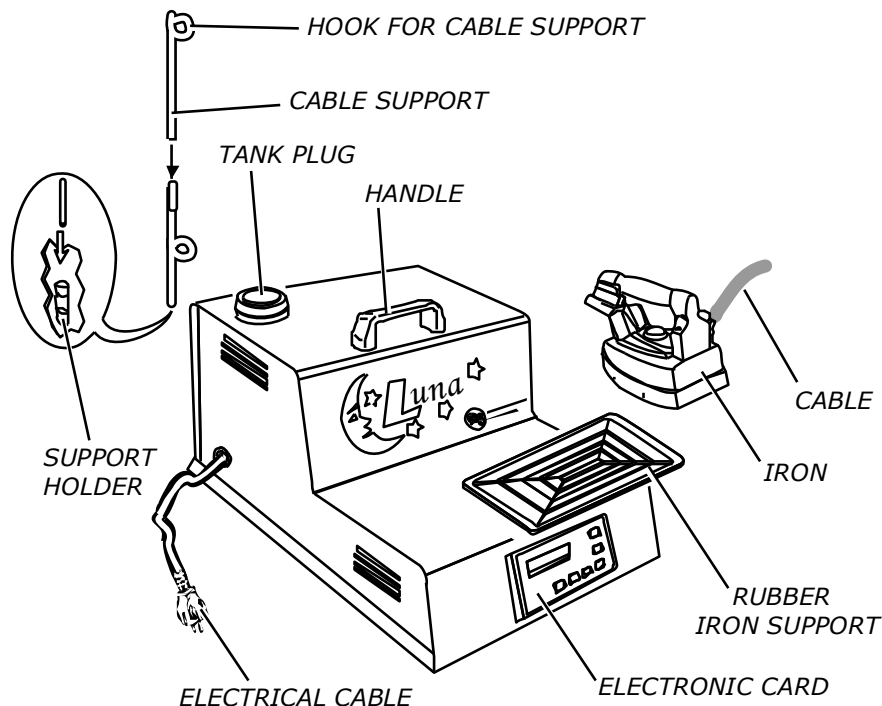

Fig. 1
For transport and handling seize the generator only by the handle, never pull its electric cables (fig. 1).
2. Remove LUNA PLUS from the box, mount the two pieces of the cable support and insert it deep into the special support holder (fig. 1) placed on the back side of the generator.
4. Put the iron on its rubber iron rest (fig. 1).